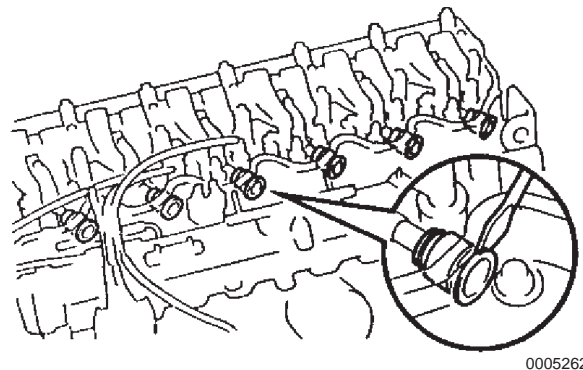

Figure 6-13
8. Remove the nozzle holder seal using a screwdriver to pry the nozzle holder from the cylinder head (**Figure 6-13**).